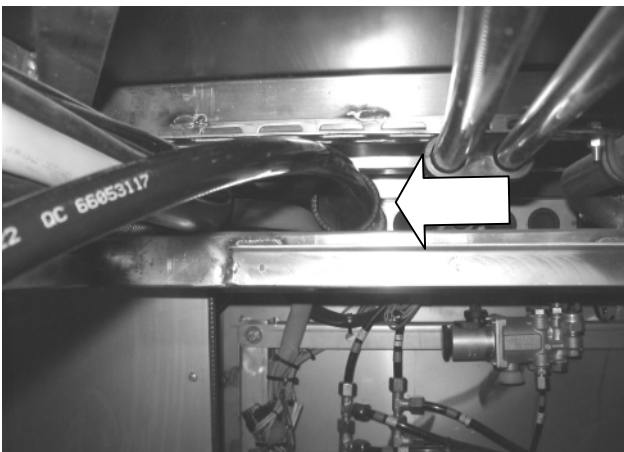

Figure 12: Spare line duct at the rear of the coach with new central tunnel line installed
- 4) Finally, run the new hose to the engine compartment via the spare line duct above the drive and tag axles (see Figure 12).